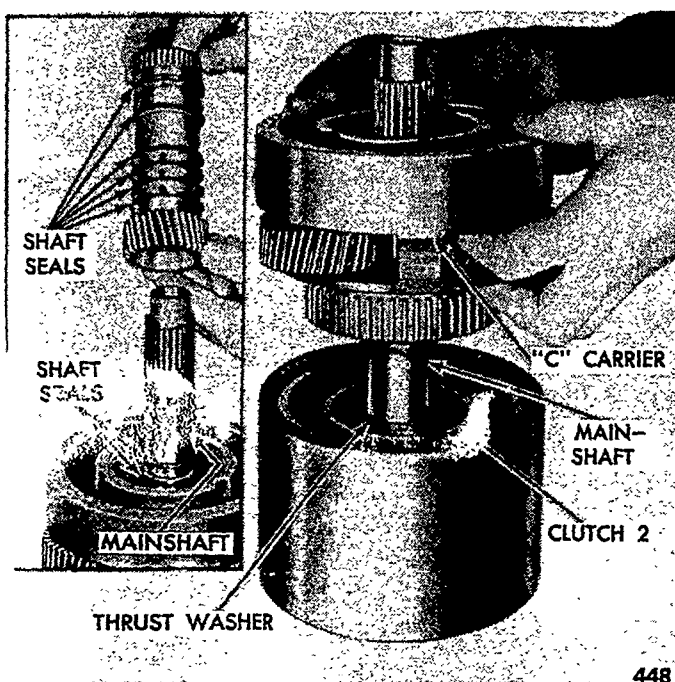

Figure 130—Installing the "C" Carrier in Clutch 2
10. Install and center the three rearmost shaft seals on the mainshaft, and install the shaft in the housing for clutches 2 and 3, as shown in Figure 129. Position the thrust washer over the shaft and install the "C" carrier, as shown in Figure 130. Then, position the next thrust washer over the shaft.
11. Install and center the remaining four shaft seals on the mainshaft and install the "C" sun gear with its five shaft seals in place, as shown in the insert, Figure 130. Coat these seals with vaseline to hold them in place.